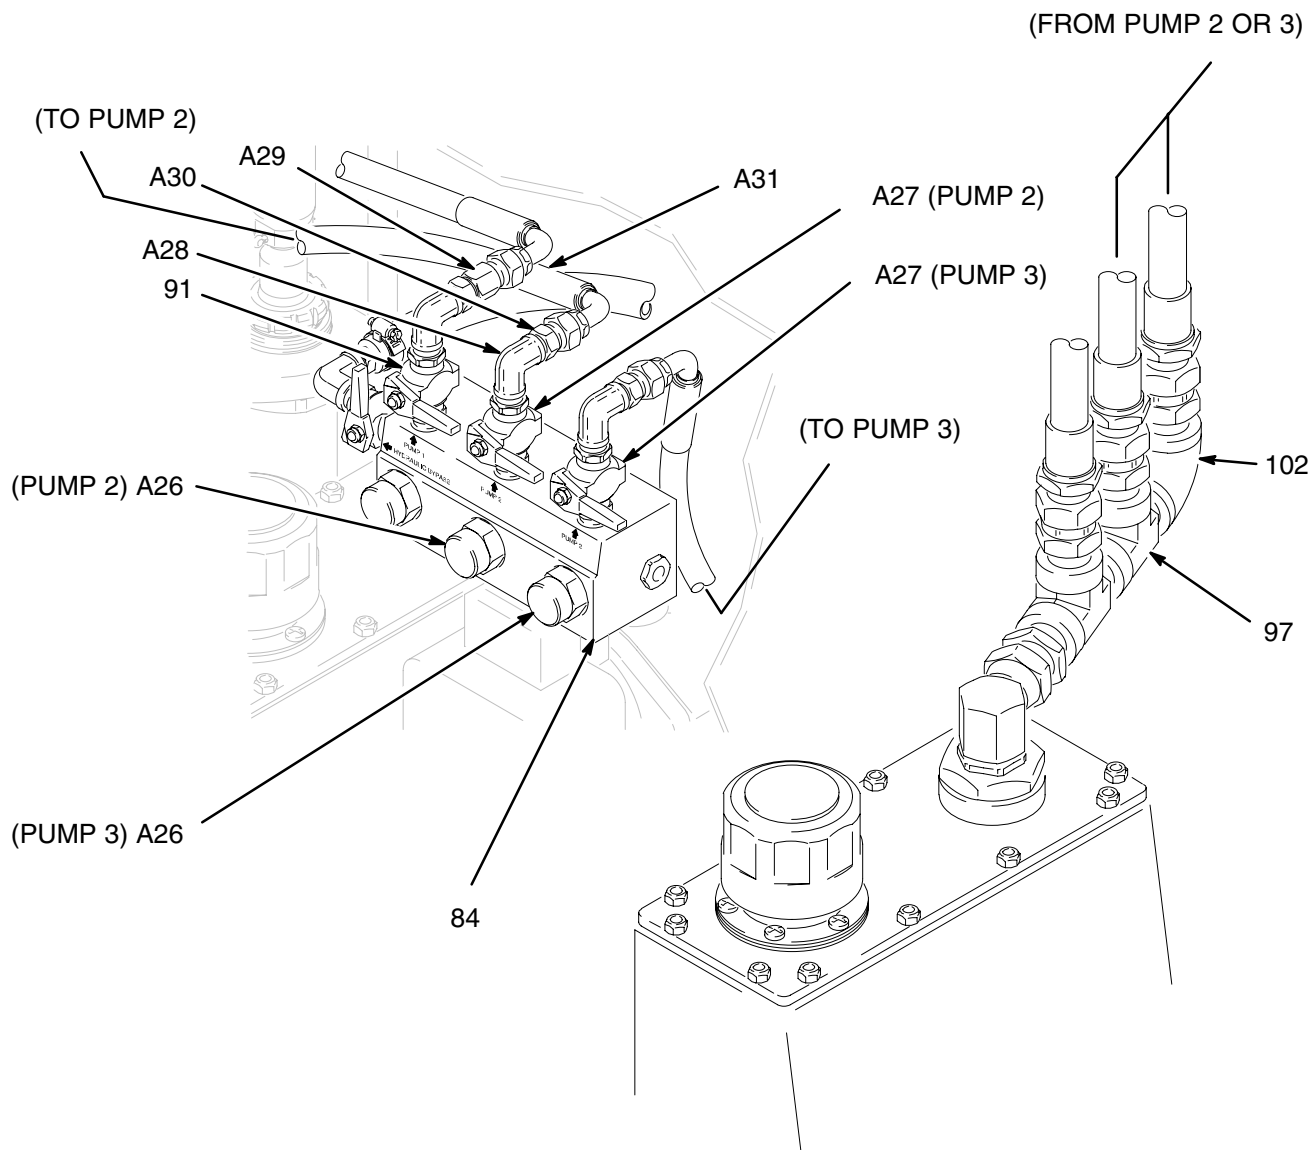

Fig. 4
1. See Fig. 4. Install flow regulator (A26) on valve manifold (84).
2. Remove pipe plug next to installed ball valve (91) on top of manifold. Install kit ball valve (A27), pipe elbow (A28), straight nipple (A30), and coupled hose (A31).
4. Install hydraulic hose from top of pump to hydraulic reservoir. Remove existing pipe plug from street tee (97) or elbow (102) on top of reservoir and connect hose (A32).